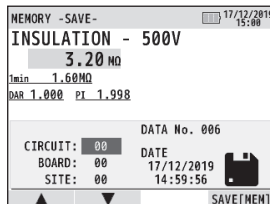

Fig.16-2
- (1) When measurement is done, press MEM switch to enter the save mode. (Fig. 16-2)